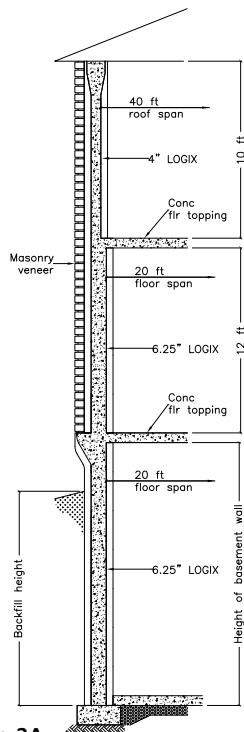

Fig 2A
LOGIX below-grade Tables 1A-H to 1D-H, shall be used in conjunction with corresponding Figures 2A to 2D, the notes listed below, and the building limitations noted in the "Reinforcement Tables" and "Helix TSMR Tables - Alternative to Rebar Reinforcement Tables" section, which form the basis of these tables.
- Table shall be read in conjunction with **Fig 2A**, and section "Notes for Below-grade Wall Tables."